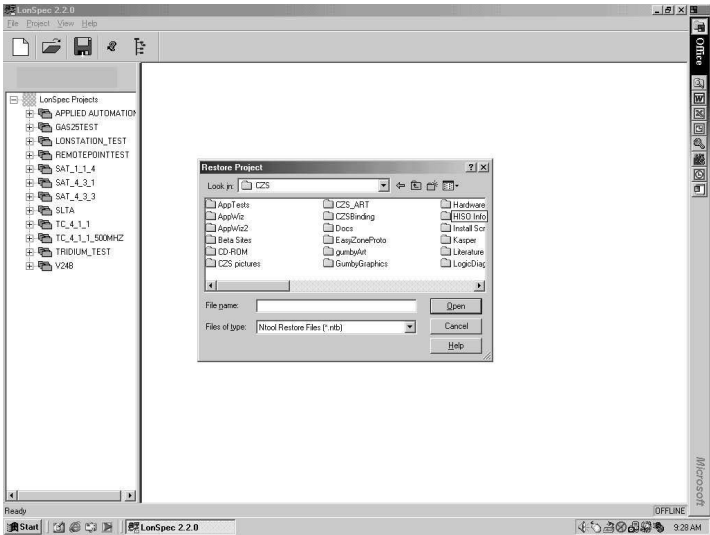

Fig. 70. Restore Project screen.
4. Restore Backup in LONSPEC™ 2.02.0. On main menu click Project, choose Restore. Restore Project screen will be displayed. See Fig. 70.